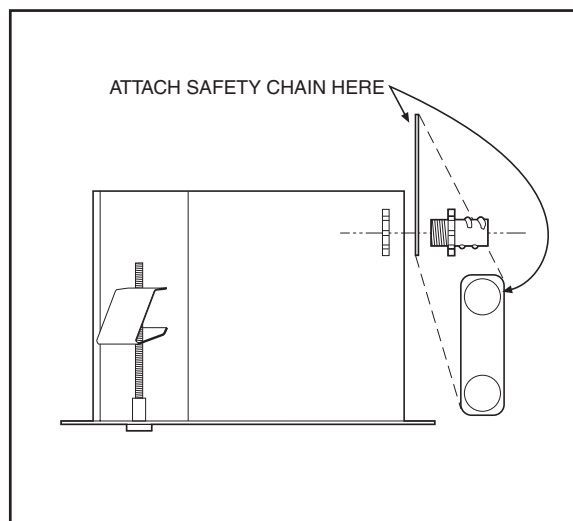

Figure 3. Conduit Fitting Installation
5. Remove the conduit fitting, lock nut, and safety chain bracket from the parts bag and attach them to the top or side of the back box as shown in Figure 3 (side installation shown).
6. Remove the conduit fitting, lock nut, and safety chain bracket from the parts bag and attach them to the top or side of the back box as shown in Figure 3 (side installation shown).
2. Install a safety chain or cable (not supplied) that will support up to 16 pounds (7.3 kg). Fasten one end to a support structure in the ceiling. Fasten the other end to the safety chain bracket (refer to Figure 3) to prevent the back box from falling.